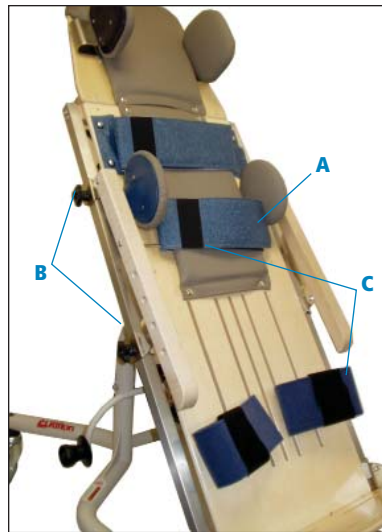

Figure 10a
To adjust height of armrest, loosen both knobs (B), slide armrest to desired position, and tighten knobs securely. To adjust angle of armrest, loosen the bottom knob only, lift or lower front of armrest to desired position, and tighten knob securely (see Figure 10a).